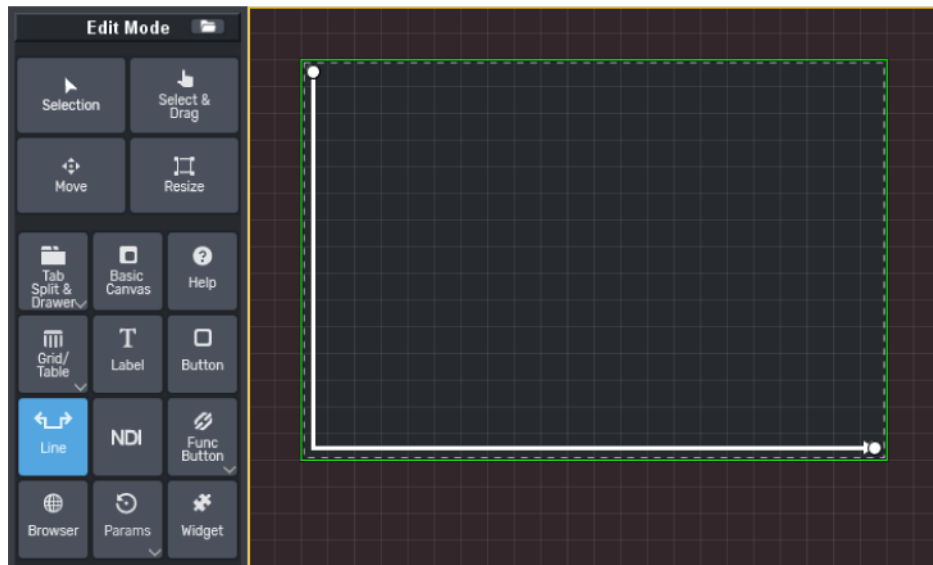

Figure 5.13 - Adding a Component (with **Lines** button selected, dragging to define line boundaries)
3. On the **CustomPanel**, click and drag to specify the area of the new component (**Figure 5.13**).